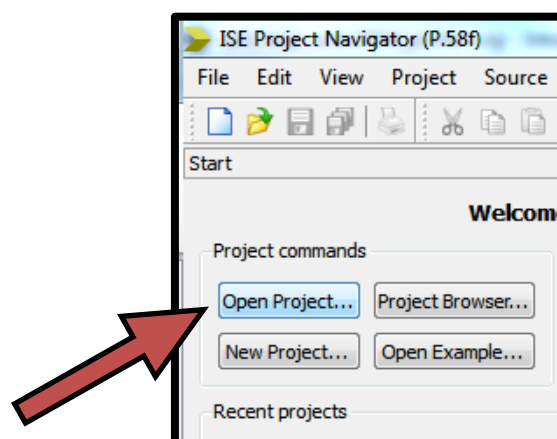

Figure 25: Clicking "Open Project..."
9. Once with ISE is open, click on the button "Open Project..." on the top left corner (see Figure 25).